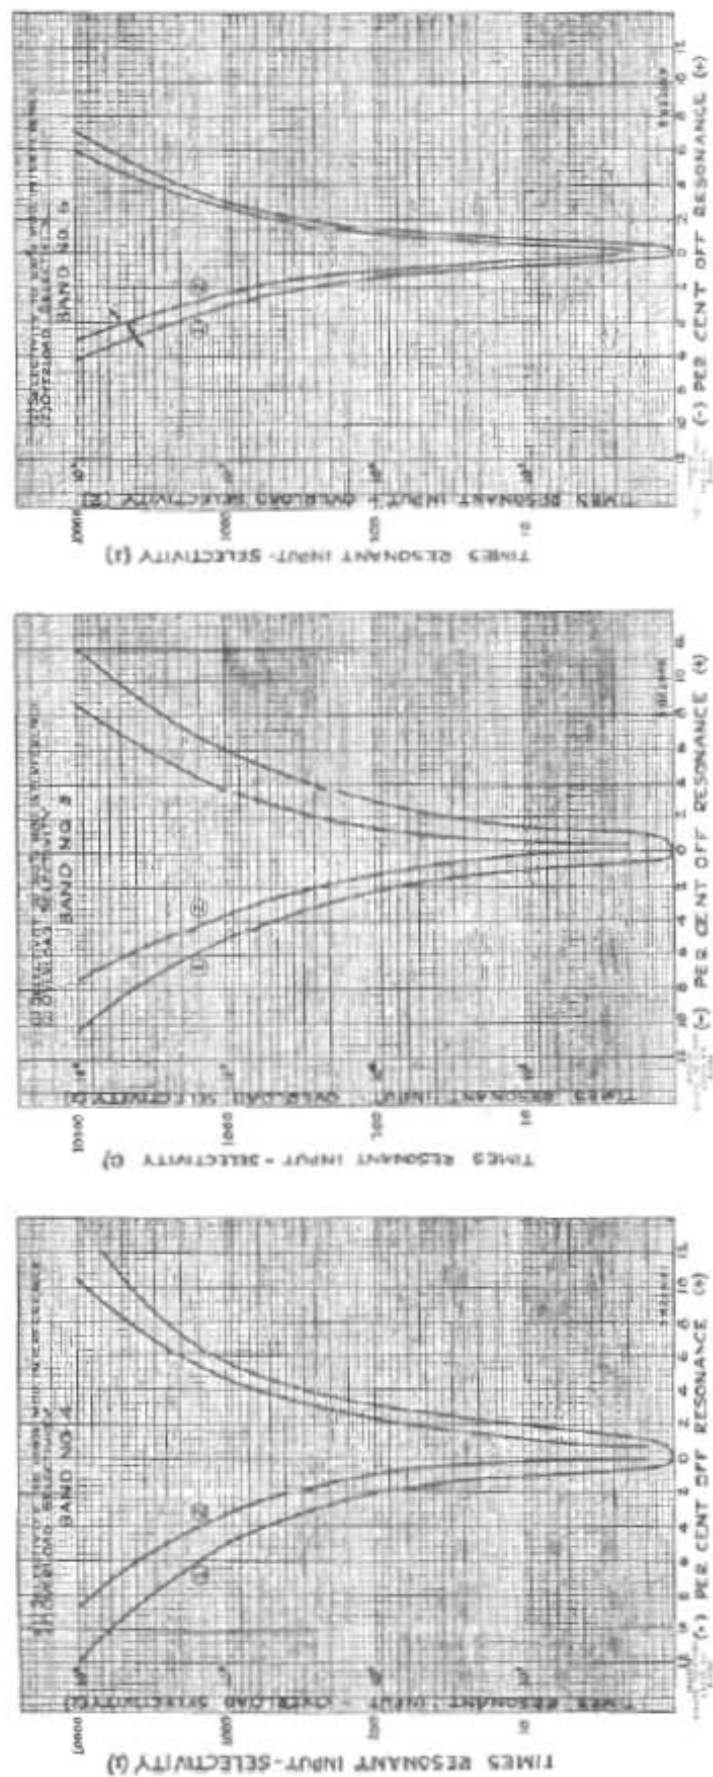

Figure 11—Average Selectivity and Overload Selectivity
11.3-2 Figure 11 shows selectivity and overload ratios for bands 4, 5, and 6. Curves (1) show the selectivity to 100% modulated interference when the receiver is operated for CW reception. They correspond closely with actual conditions at the middle of the band and represent an average for the band. This data is taken by first adjusting the receiver as for sensitivity measurement (par. 11.1) with 6 mw. output at resonance. The signal is then modulated 30% and the frequency varied. The ratios of inputs off resonance (required to produce 6 mw. output) to the normal (resonant) input are noted and the data corrected to simulate 100% modulated interference.
11.3-3 Curves (2) of Figure 11 show the overload selectivity characteristics for bands 4, 5 and 6. The curves correspond closely with actual conditions at the middle of the band and represent an average for the band. This data is taken by first adjusting the receiver for sensitivity measurement (par. 11.1). With the resonant signal being received, a CW interfering signal is applied at various frequencies off resonance and the ratios of inputs off resonance (required to reduce the resonant signal output by 3 db) to the normal (resonant) input are noted.